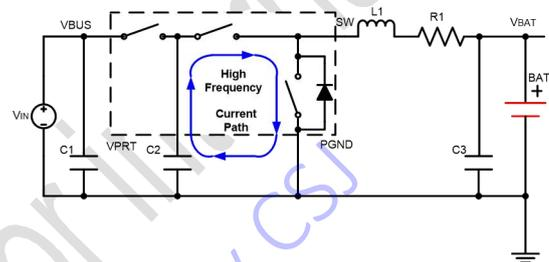

Figure 24. High Frequency Current Path
(1) To obtain optimal performance, the power input capacitors, connected from power input to PGND, should be placed as close to the IC as possible. The output inductor should be placed close to the IC and the output capacitor connected between the inductor and PGND of the IC. The intention is to minimize the current path loop area (from the SW pin through the LC filter to the PGND pin and back to IC). To prevent high frequency oscillation problem, use proper layout to minimize high frequency current path loop (See Figure 24). The sense resistor should be close to the junction of the output capacitor and inductor. The sense path must connect to the underneath of the resistor, and do not cross any high-current path.
(2) Place all decoupling capacitors close to their respective IC pins and close to PGND. Do not place components on any high-current path. All small control signals should be kept away from any high current path.
(3) The PCB should have a dedicated ground plane, which is connected to all components through via holes (two via holes per power-stage capacitors; two via holes for the IC PGND; one via per capacitor of small-signal components). Use star connection to separate different parts (high-power/low-power/small-signal) of the application design to reduce coupling noise and ground noise. Using small-size layout and independent ground connection will reduce ground noise and minimize coupling between signals.
(4) The high-current charge paths of VBUS, PMID, SW and PGND pins must be sized appropriately according to their maximum charge current in order to minimize voltage